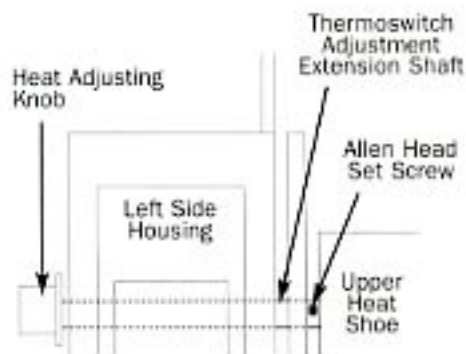

Figure 17-4
4. On ARL12 VSR with external temperature control, remove the thermoswitch adjustment extension shaft by loosening it's Allen Head set screw and sliding the extension off of the thermoswitch adjusting screw. Never try to remove the extension shaft by rotating it counter clockwise, this will ruin the thermoswitch. See figure 17-4.